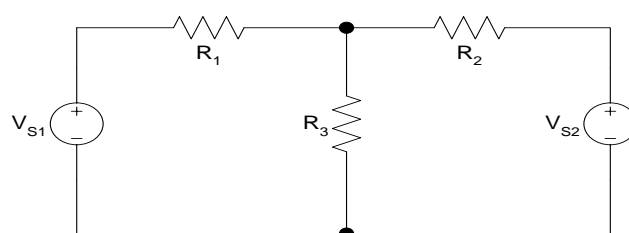

Figure 10.6: Circuit diagram for Source transformation theorem
4. Now construct a circuit as shown in Figure 10.6, with the values of the source voltage and resistance adjusted to the calculated values of the single source and resistance.